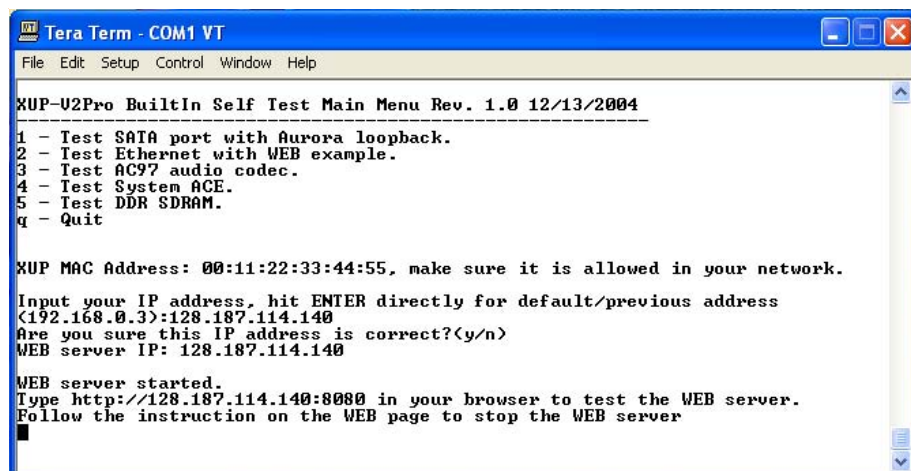

Figure D-12: Web Server Running
- After you press ENTER, you will be prompted to verify your IP address. If you answer “y”, the Web server will be started as shown Figure D-12. If you answer “n”, you will repeat step 1.